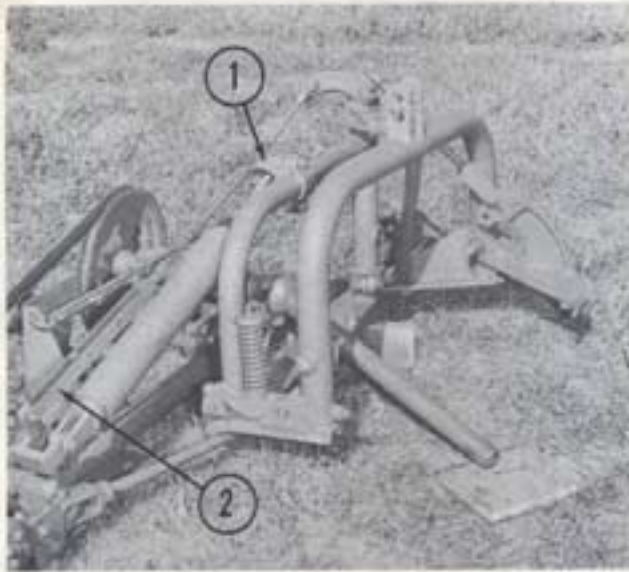

Fig. 8 Preparing for Width Adjustment
2. Slacken off the tension on the counterbalance spring by means of the adjusting bolt and remove the two bolts holding the spring support bracket (No. 1, Fig. 8.) Remove the two halves of this support bracket, and drive out the roll pin which locates the bracket on the lift frame.
3. Remove the lift cable trunnions from their retaining links (No. 2, Fig. 8) by removing the four $\frac{3}{16}$ inch cotter pins.